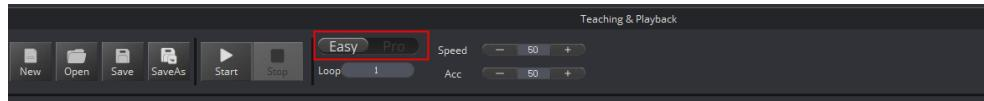

Figure 5.203 Switch advanced function
Step 2 Click **Easy** icon on the **Teaching&Playback** page, as shown in Figure 5.203.